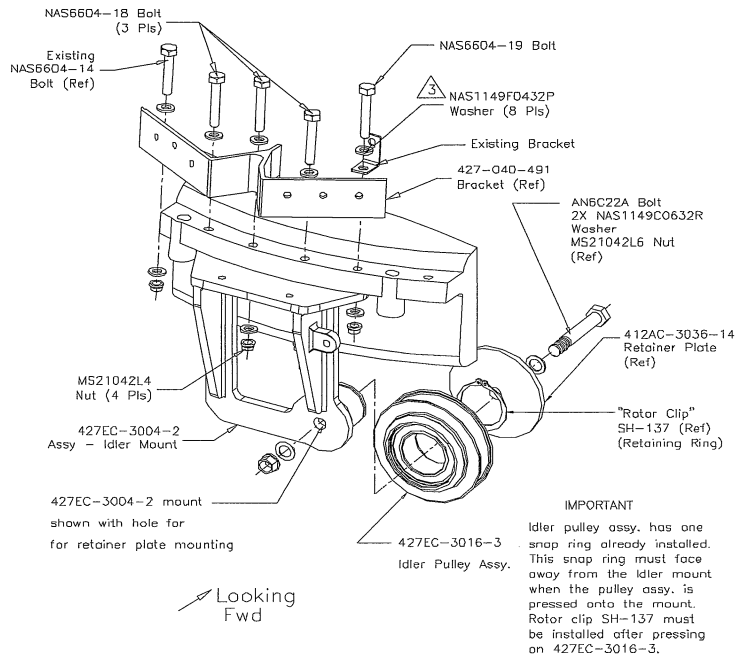

Figure 2.3
6. Reinstall the AN6C22A Bolt (1X), NAS1149C0632R Washer (2X), MS21042L6 Nut (1X), from the 412AC-3036-14 Retainer Plate to access the 427EC-3500-18 Idler Pulley Assembly. Reinstall SH-137 Rotor Clip to 427EC-3004-2 Idler Mount. Torque Nut **50 -70** in-lbs. (See figure 2.3)
7. Reinstall the NAS6604-18 Bolt (3X), NAS6604-19 Bolt (1X), NAS1149F0432P Washers (8X), MS21042L4 Nut (4X), to reinstall the 427EC-3004-2 Mount Assembly to the transmission housing. Torque Nuts **50 - 70** in-lbs. (See figure 2.3)